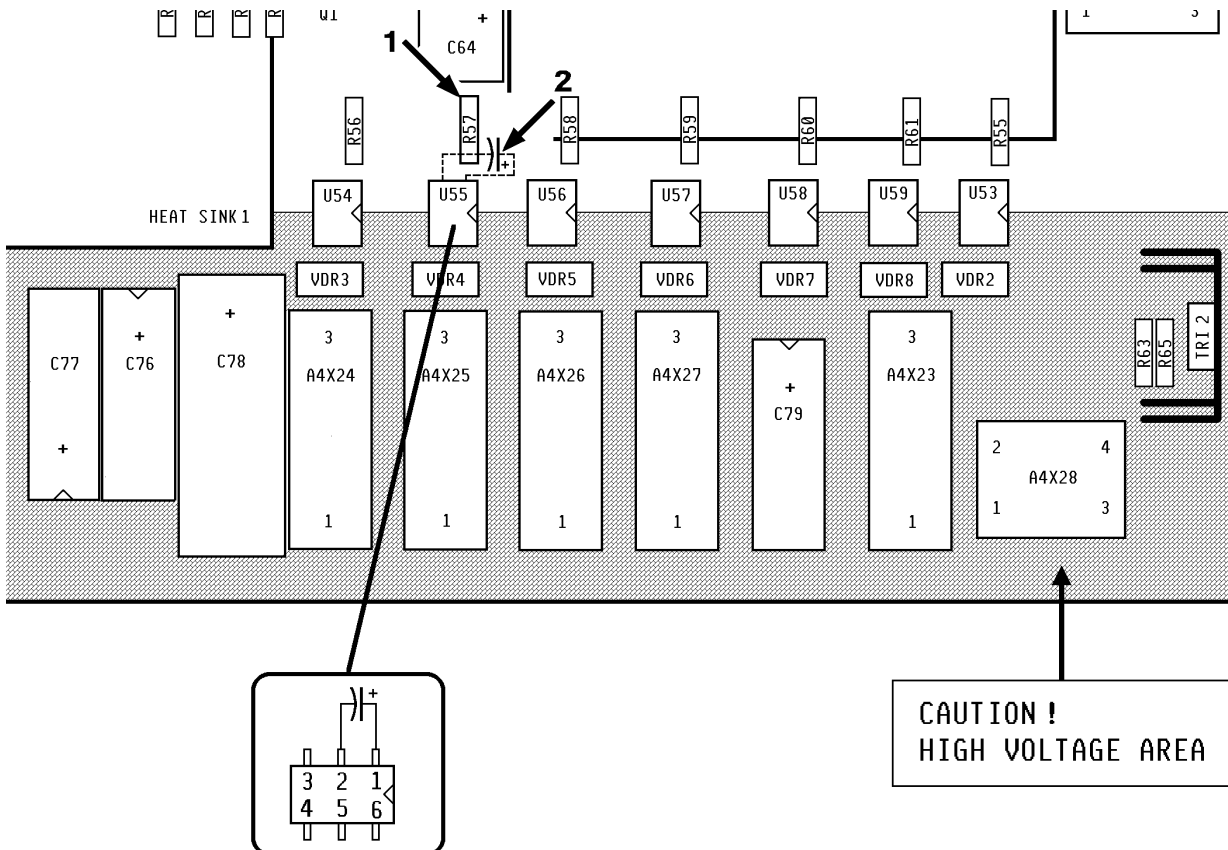

figure 15
4. Bend the CAPACITOR away from the HIGH VOLTAGE AREA. It is a violation of the SAFETY RULES if it is mounted in the direction of the HIGH VOLTAGE AREA and if its PINS touch another COMPONENT. See figure 15 for the HIGH VOLTAGE AREA.